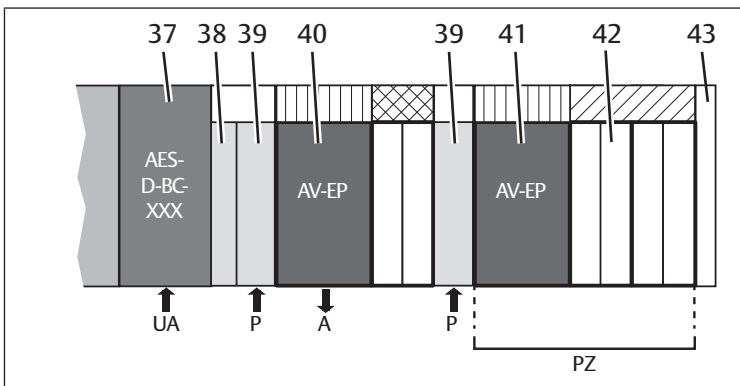

Fig. 12: Example configuration
Fig. 12 shows an example configuration for an AV valve system with AES bus coupler.
1. With a pneumatic supply plate (39), make sure that an additional supply or exhaust air connection is available.
- Place the AV-EP pressure regulator directly adjacent to the directional valves (42) to be supplied. The AV-EP pressure regulator is located on the side facing the AES bus coupler (37) (see Fig. 12, pressure zone PZ).
To achieve the maximum flow of the AV-EP pressure regulator, we recommend a pneumatic supply plate (39) upstream of the pressure regulator (see example configuration in Fig. 12).
- Position the single pressure control (40) between the AES bus coupler (37) and the pressure zone control (41), see example configuration in Fig. 12.